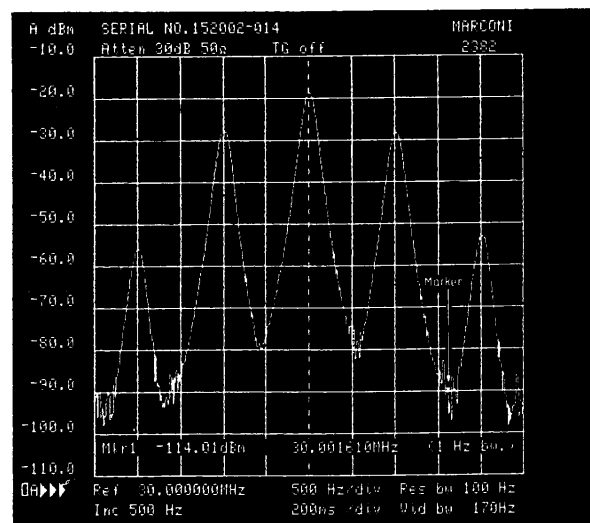

Fig. 3-14 Noise level measurement
Press PRESET and using the signal generator, apply a 30 MHz, -20 dBm signal, amplitude modulated at 1 kHz and modulation depth 70% to the INPUT. Set the analyzer REF FREQ to 30 MHz and select SPAN/DIV 500 Hz and RESOLUTION BANDWIDTH 100 Hz. Set the markers A B SELECT key to A, press MKR 1 and set 1, 2 MOVE [34] to 1. Using the MOVE rotary control position marker 1 in the noise, well clear of the signal. Press 2nd FUNCT then 1, 2 MOVE (NOISE 1 Hz). Now press the display A VIDEO AVG key [1] and full information on the use of this function is displayed on the screen. Using the DATA keypad enter the number of sweeps to be averaged. The higher the number of sweeps the greater the smoothing but the time taken is longer. The maximum number of sweeps possible is 128 (2⁷). The key-light flashes and as the sweeps are completed they are counted and shown in inverse video at the bottom of the screen. The reduced level of noise is apparent and upon completion the key-light changes to steady and the low level signal can be seen and measured as required (refer to Fig. 3-14). If VIDEO AVG has been selected in error it can be cleared by operating DATA key 0, otherwise to erase a completed or part completed entry, press the VIDEO AVG key again.